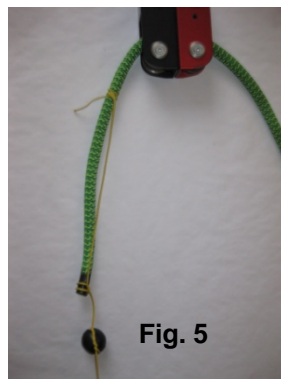

Fig. 5
2. Tie the throw line to the end of the climbing line that is leading into the Black Block, making sure the Retrieval Ball hangs below the climbing line (Fig. 5).